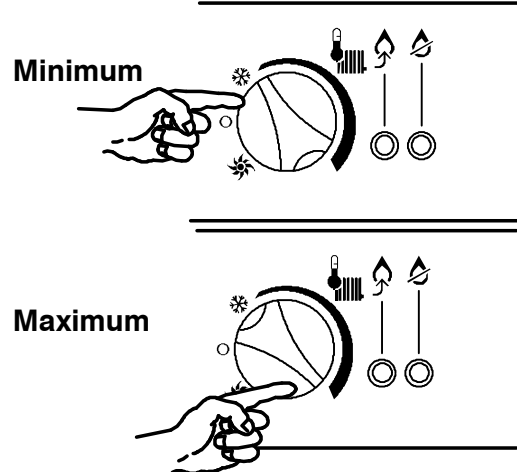

fig. 2.7
The output temperature of c.h. water is adjustable from a minimum of about 38°C to a maximum of about 85°C (fig. 2.7), by turning the function selector (8).